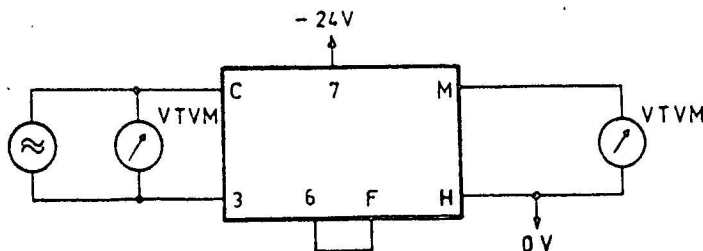

Fig. 21
- Connect the printed circuit board as shown in Fig. 21. (Note: the total load impedance of the input should be 200 Ω).